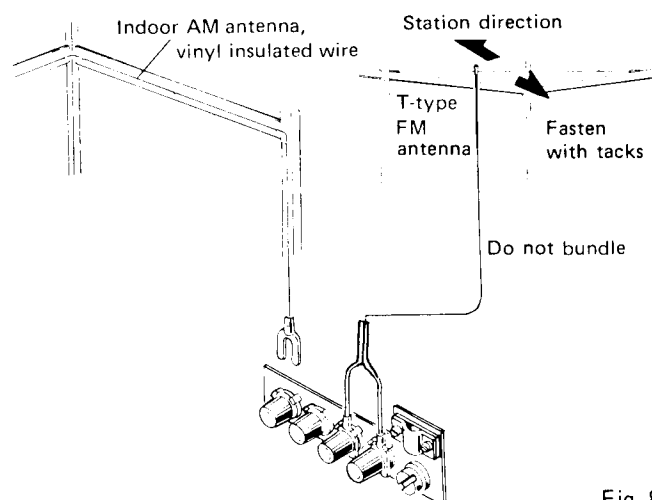

Fig. 8
- As shown in Fig. 8, connect the T-type antenna to the 300Ω antenna terminals. Spread the 2 arms of the antenna horizontally and while listening to an FM station, position them for best reception. The antenna can then be taped to a wall or ceiling.
If reception is difficult with the bar antenna, an indoor AM antenna can be erected with vinyl insulated wire as shown in Fig. 8.